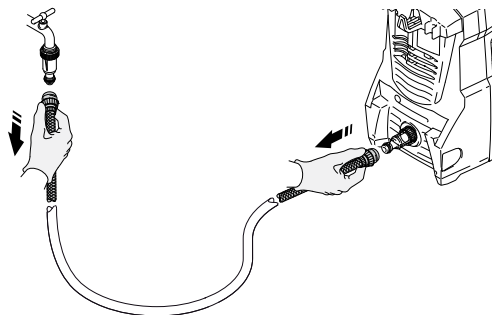

Fig. 23
7. Separate the water hose from the water supply. (Fig. 23)